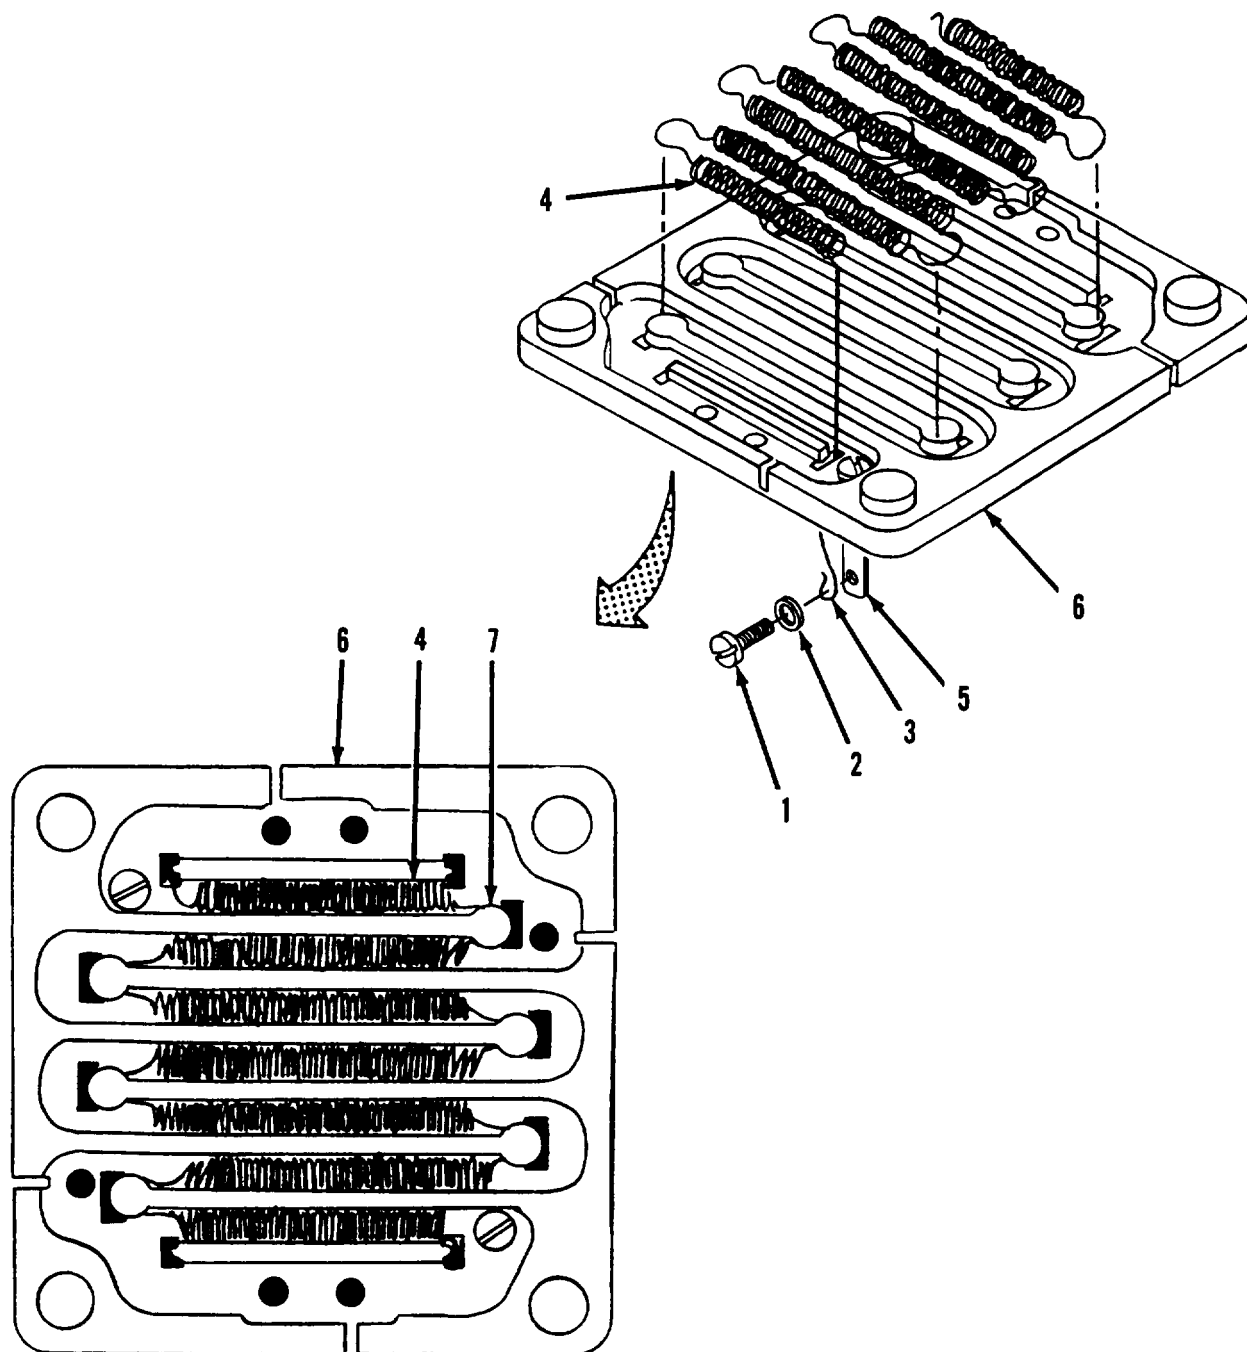

Figure 4-2. Flash Point Heater Element and Refractory Repair.
- (4) Inspect heating element (4, figure 4-2) for burned, broken or shorted coils.
- (5) Inspect refractory (6) for cracks, broken or missing pieces, and loose or missing terminal lugs (5).
d. Repair. Refer to figure 4-2.
- (1) Remove two screws (1) and flat washers (2) securing heating element leads (3) to lugs (5).
- (2) Straighten element leads (3) and pull defective element (4) from top of refractory (6).